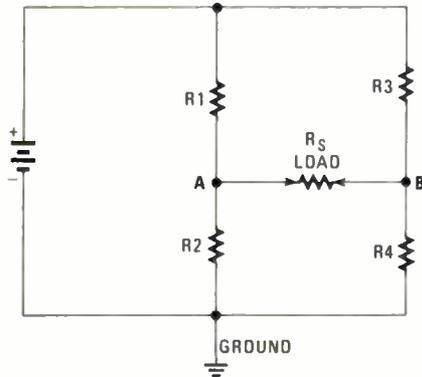

Fig. 24—This is just a different way to draw the bridge circuit shown in Fig. 23.
Notice the unique diamond shape of the bridge. When it is drawn this way, it is easy to recognize. Sometimes, however, it is drawn in other configurations and is not so readily recognized. An example is shown in Fig. 24.
48. (four) If you will look carefully at Fig. 24, you will see that the bridge simply consists of two voltage divider circuits connected across a battery. One voltage divider is made up of R1 and R2; the other is made up of R3 and R4. A load, R_L , is connected between the two voltage divider outputs. By knowing the resistor values and the applied voltage, E, you can calculate the output of each voltage divider, that is, the voltage between point A and ground and between point B and ground. The formula for the voltage divider output is:
not by connecting a voltmeter between points A and B. If the voltage is zero, the bridge is balanced. On the other hand, if the voltage at point A is not equal to the voltage at point B, then the bridge is said to be unbalanced. A potential difference will exist across R_L and current will flow through it. Suppose that $EA = +4$ volts and $EB = +5$ volts. Current will flow from point _____ to point _____ in Fig. 24.